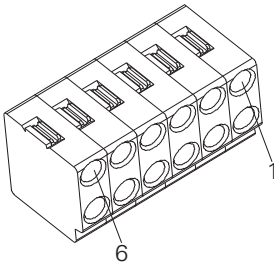

Fig. 5: WAGO Terminal Block - Wiring Connection
- 3 Strip the conductors and push the wires into the WAGO terminal block as shown in Fig. 5. Push the springs inside the terminal block to ensure that the wires are firmly gripped.
- 6 Tighten the screws (2) and ensure that the assembled unit is firmly mounted on the wall.
- 1 Replace the RJ11 end of the cable with the supplied WAGO terminal block to create a cable with WAGO terminal blocks at both ends. Refer to Fig. 5 for WAGO terminal wiring connection.